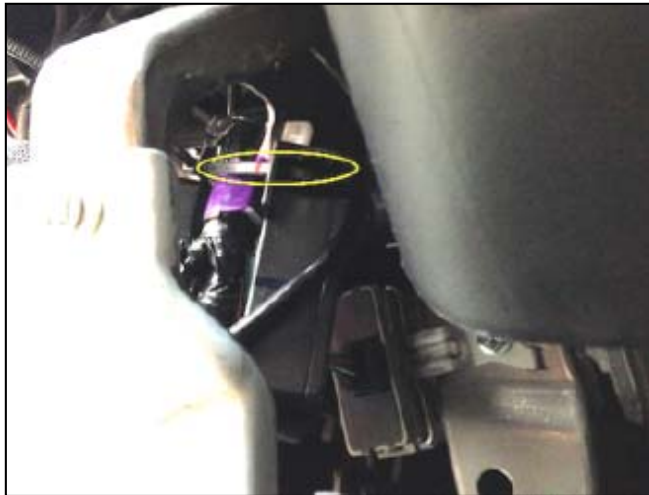

Figure 8
12. Using a 14” wire tie, secure the driver box to factory harness left of the steering wheel column. See Figure 8.